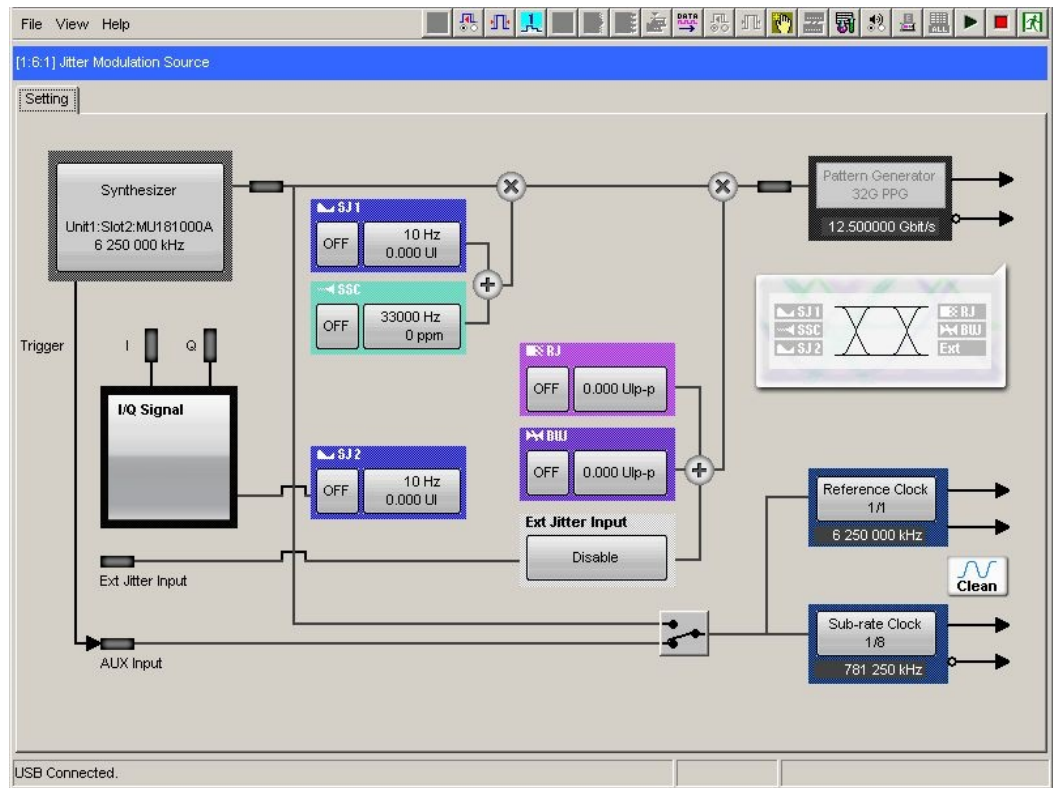

Figure E.5-3 Setting MU181500B's AUX and Reference Clock
- 6, 7. Use coaxial cables (applicable part, 0.8 m, APC 3.5 mm connector) to connect MU181500B's **Reference Clock Output** connectors respectively with the **Doubler Input** connector of each MP1825B No.1 and 2. Then, connect MP1825B's **Doubler Output** and **Clock Input** connectors with the semi-rigid coaxial cable that comes with MP1825B. After that switch MU181500B's AUX clock input signal to **AUX Input** and set the Reference Clock to **1/1**. (Figure E.5-3)
- 6, 7. Use coaxial cables (applicable part, 0.8 m, APC 3.5 mm connector) to connect MU181500B's **Reference Clock Output** connectors respectively with the **Doubler Input** connector of each MP1825B No.1 and 2. Then, connect MP1825B's **Doubler Output** and **Clock Input** connectors with the semi-rigid coaxial cable that comes with MP1825B. After that switch MU181500B's AUX clock input signal to **AUX Input** and set the Reference Clock to 1/1. (Figure E.5-3)